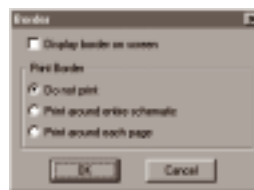

Figure 12.6. Use the Border feature to add a coordinate system border around your schematic for easily locating devices.
- 1 Choose **Options > Border** to display the dialog box pictured in Figure 12.6.